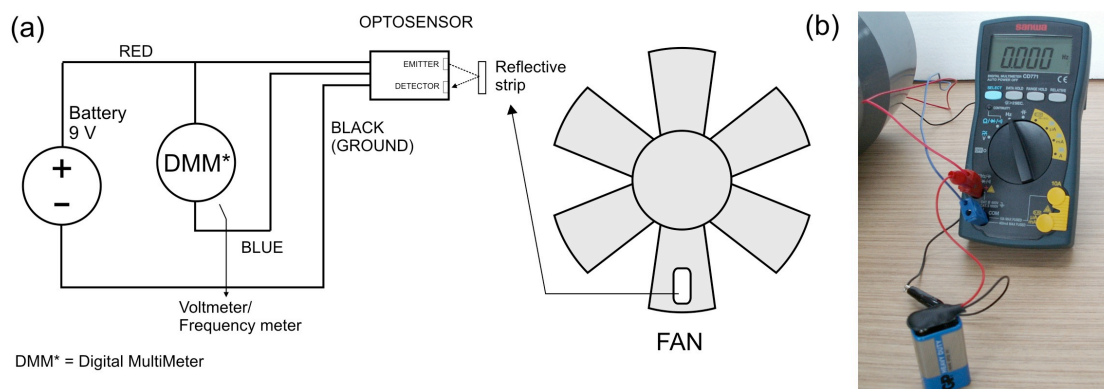

Figure 4. Opto-sensor output connection to the DMM#1 that works as voltmeter or frequency meter.
Measuring the rotation speed of the motor or wind turbine is important in wind power engineering. We will use a simple optoelectronic-sensor circuit as shown below to measure the rotation frequency of the motor. The opto-sensor consists of a pair of infrared light emitter and detector that will detect a reflective strip on the blade as the motor rotates (Figure 4).
- Connect the opto-sensor circuit as shown in Figure 4.